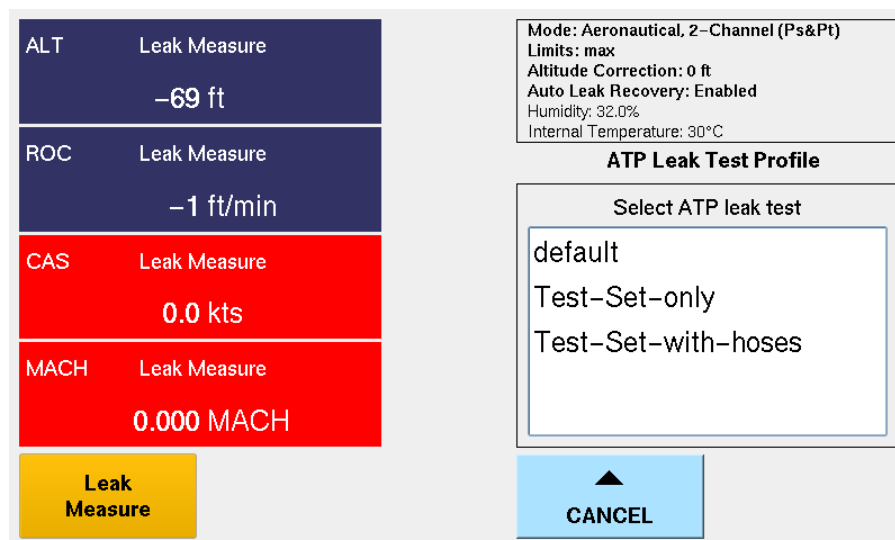

Figure 49 Selecting ATP Leak Test Profile
- b) Method-(2) **ATP Leak Test:** the DPS1000 has an automated feature called ATP Leak Test which allows the user to setup a profile ahead of time with the following parameters: (see Figure 49 and Figure 50) This is much more efficient since the user can select or create the profile and select RUN to execute the automated leak test and return when the ATP Leak Test has completed to review the leak test results.